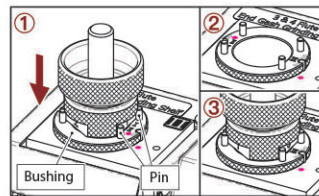

Fig. 8-2
2. 3 Flute End Gash Grinding (II) (Fig. 8-2)
- ① Insert the chuck set into the bushing on the Shelf (II), align Slot No.1 to the two pins where marked as No.(I · II), push the chuck set gently until the grinding noise stops. Turn the chuck set to grind the Slot No.2 in the same way.
- ② Take the chuck set out, turn the bushing to No.(III), align No.(III) to the pin on the shelf, then insert it to the end.
- ③ Insert the chuck set into the bushing, align Slot No.3 to the two pins where marked as No.(III), push the chuck set gently until the grinding noise stops.